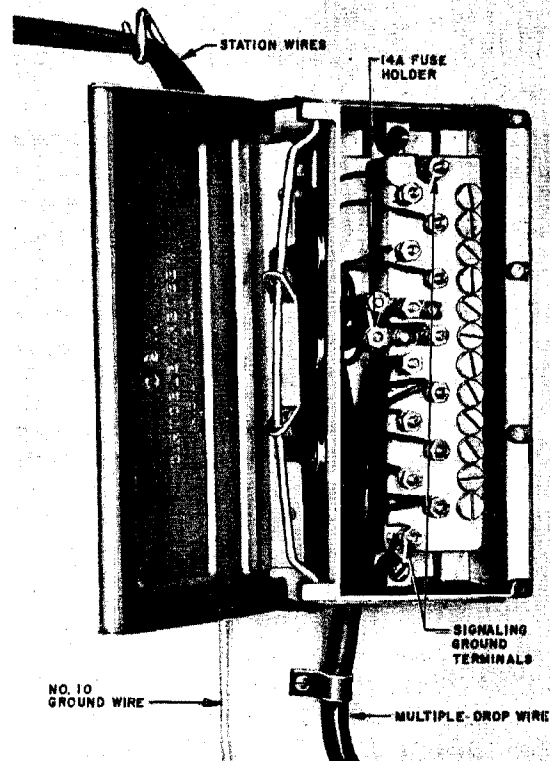
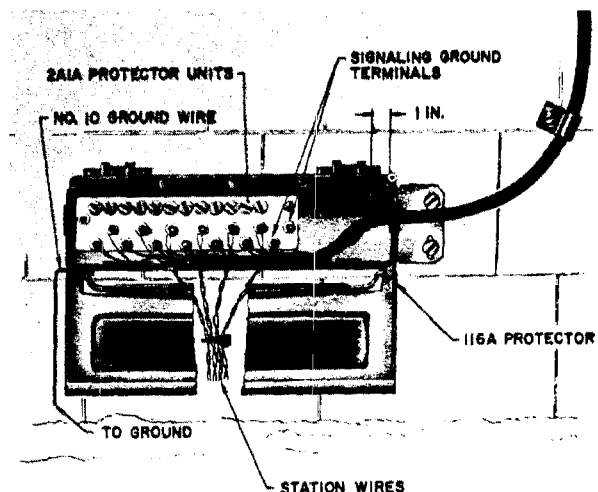

Fig. 4 — Wiring of 116C Protector
Fig. 5 - Wiring of 116A Protector
8.01 The 116C protector, shown in Fig. 4, consists of a metal housing equipped with a hinged metal cover and containing twelve No.
8.03 Wiring of 116C protector is shown in Fig. 4.
8.05 The 116C protector (Fig. 4) and the 116A protector (Fig. 5) are shown served by a multiple drop wire, but they can also be served by separate drop wires.
8.08 Wiring of 116A protector is illustrated in Fig. 5.